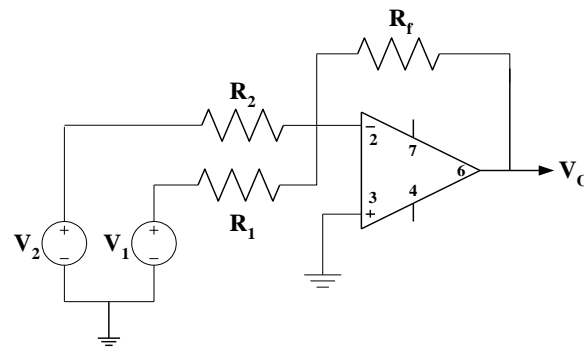

Figure 2. An adder circuit using 741 Op Amp.
1. **DESIGN OF ADDER CIRCUIT:** Design the adder circuit shown in Figure 2 (determine the values of the resistors) so that it implements the function $V_O = -(V_1 + 2V_2)$. The available set of resistances that you can use is 100Ω , $1K\Omega$, $2.2K\Omega$, $3.3K\Omega$, $5.6K\Omega$, and $10K\Omega$. For design safety, take R_f as high as possible. In your design, if exact value of resistance is not available, choose the nearest one.
2. Connect the circuit as shown in Figure 2 with the resistance values from your prelab design. Use a +15V DC power supply to terminal 7 and -15V DC power supply to terminal 4 of the Op Amp from the digital trainer board.
3. Simulate the circuit shown in Figure 2 in Pspice. Use V_1 a 5V peak to peak, 1KHZ, 0° phase sine wave and V_2 a 5V peak to peak, 1KHZ, 90° phase sine wave. Perform simulation for 4 cycles (transient analysis for 4 ms) and attach the printed output with your report.